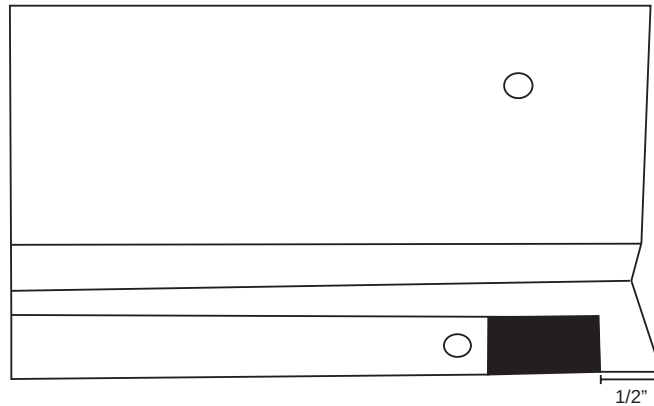

Fig. 5 — Gasket Shown on Air Seal
9. Apply gasket supplied in drain kit so that it will form a seal between the drain fitting and air seal (See Fig. 5).